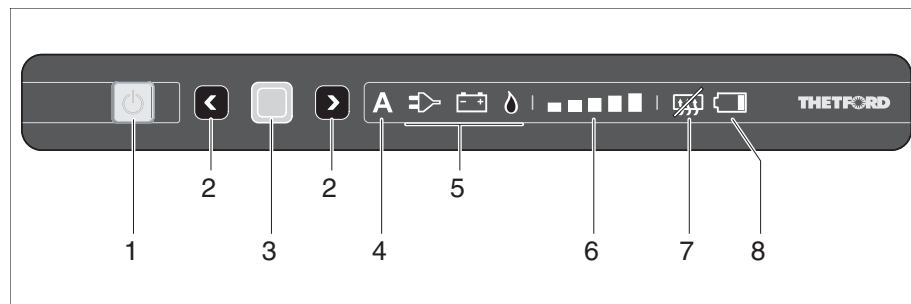

Fig. 272 Operating and display elements for the refrigerator (Thetford without SES)
- Press the button (Fig. 272,1).
- Press and hold the button (Fig. 272,1). All the lamps go out.
If automatic mode is selected, the automatic mode display (Fig. 272,4) and the best available source (Fig. 272,5) light up in the operating panel.
- Press and hold the confirmation button (Fig. 272,3).
The operating mode symbols (Fig. 272,5) begin to flash.
- Use the selection buttons (Fig. 272,2) to select gas operation and apply the selection by using the confirmation button (Fig. 272,3).
- Use the selection buttons (Fig. 272,2) to select 230 V operation and apply the selection by using the confirmation button (Fig. 272,3).
- Use the selection buttons (Fig. 272,2) to select 12 V operation and apply the selection by using the confirmation button (Fig. 272,3).
- Press the confirmation button (Fig. 272,3) again.
The cooling level display (Fig. 272,6) begins to flash.
- Use the selection buttons (Fig. 272,2) to select the desired cooling level and apply the selection by using the confirmation button (Fig. 272,3).